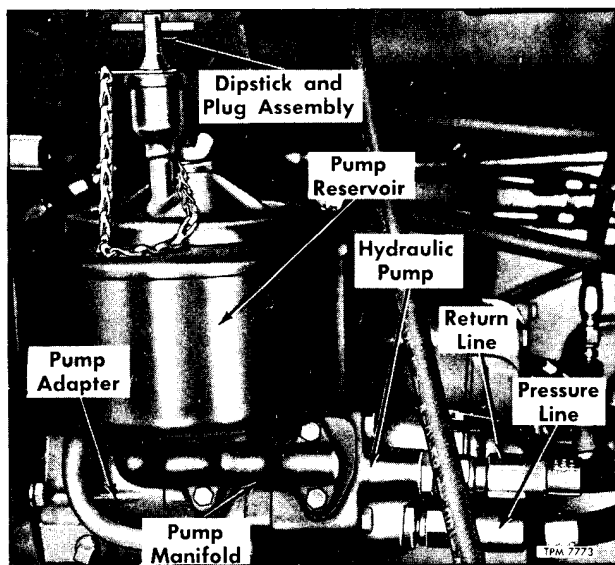
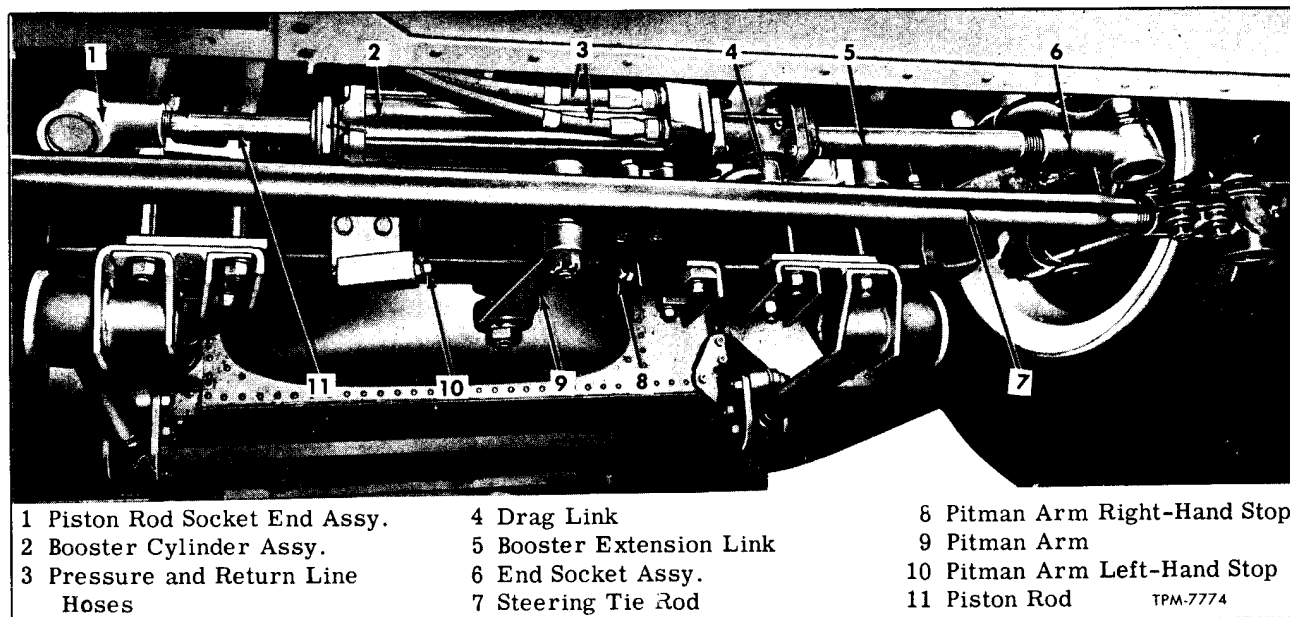

Figure 1—Power Steering Hydraulic Pump Installed
Figure 2—Power Steering Booster Cylinder Installed
Power steering is accomplished through use of hydraulic pressure. This pressure is supplied by a vane-type oil pump mounted at left rear of the engine. The pump is driven through a coupling by engine blower drive shaft (fig. 1). Pressure created by the pump is circulated through flexible fluid lines to a self-contained actuating booster cylinder installed on the front axle (fig. 2). Movement of steering wheel is transmitted through conventional Pitman arm and drag link to a control valve located in booster cylinder. This control valve directs hydraulic fluid, under pressure cre-
Power steering booster cylinder assembly, installed as shown in figure 2, can be readily removed from coach at any time service is required that necessitates disassembly or partial disassembly of the unit. Remove booster cylinder assembly from coach as described in the following text. When reinstalling booster cylinder assembly, be sure to accomplish adjustment procedures outlined.
INSTALLATION (Refer to Figs. 2 and 9)
11. Check adjustment and position of booster cylinder extension and socket end assembly. If socket end assembly and booster cylinder are installed and adjusted correctly, flange of extension and flange of booster cylinder ball stud body will be tipped heel down 3° or almost level. (See figure 2.)